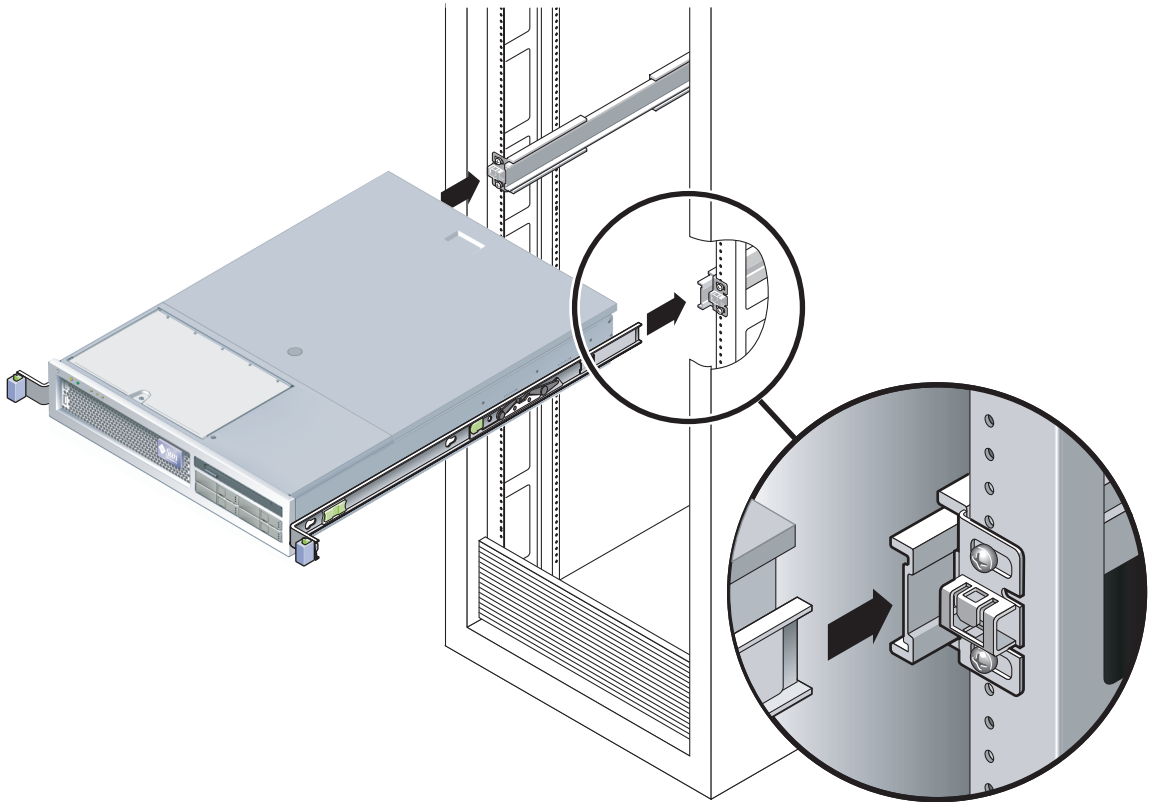

FIGURE 3-29 Mounting the Chassis on the Slide Rails
10. Insert the ends of the mounting brackets into the sliding rails (FIGURE 3-29).